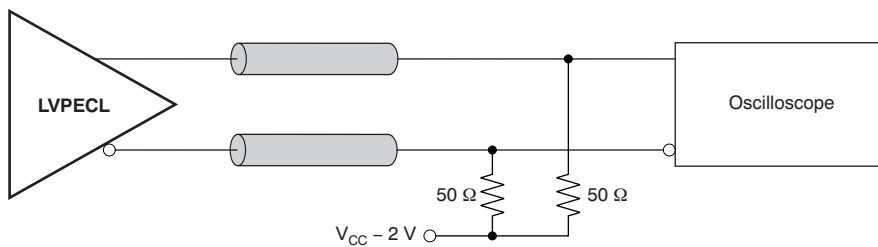

Figure 10. LVPECL Output DC Configuration During Device Test
(1) Figure 10 and Figure 11 show dc and ac test setup.
(2) Internally generated bias voltage ( $V_{AC\_REF}$ ) is for 3.3 V operation only. It is recommended to apply externally generated bias voltage for  $V_{CC} < 3.0\text{ V}$ .
(2) Parameter is specified by characterization. Not tested in production.
(3) Input source: 122.88 MHz Rohde &amp; Schwarz SMA100A Signal Generator.
(4) Input source RMS Jitter ( $t_{RJIT\_IN}$ ) and Total RMS Jitter ( $t_{RJIT\_OUT}$ ) measured using Agilent E5052 Phase Noise Analyzer. Buffer device random additive jitter computed as:  $t_{RJIT} = \text{SQRT}[(t_{RJIT\_OUT})^2 - (t_{RJIT\_IN})^2]$ .
(5) Input source: 156.25 MHz Rohde &amp; Schwarz SMA100A Signal Generator.
(6) Input source: 312.5 MHz Rohde &amp; Schwarz SMA100A Signal Generator.